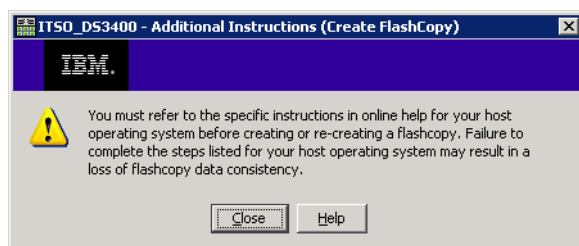

Figure 9-61 FlashCopy - Additional Instructions
1. On the Configure tab, select the **Create Logical Drive Copies** option to start the wizard (Figure 9-14 on page 141). Review the information shown in the additional instructions window (Figure 9-61) and close it.